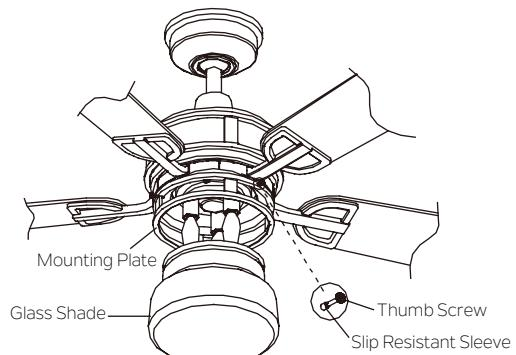

Fig. 24
**Step 2.** Place the slip resistant sleeve on the end of the thumb screw with knurled head. Lift the glass shade allowing it against the mounting plate and securely tighten with the 3 thumb screws only by hand to avoid damaging glass. Do not overtighten the screws.(Fig.24)